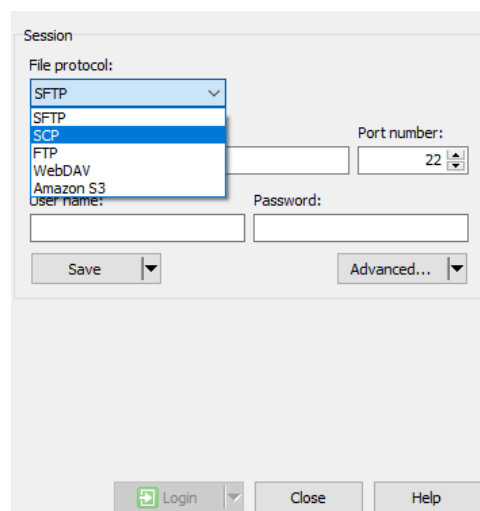

Figure 7. Login window for WinSCP.
- b. Select SCP from the 'File Protocol' dropdown menu, see Figure 7.